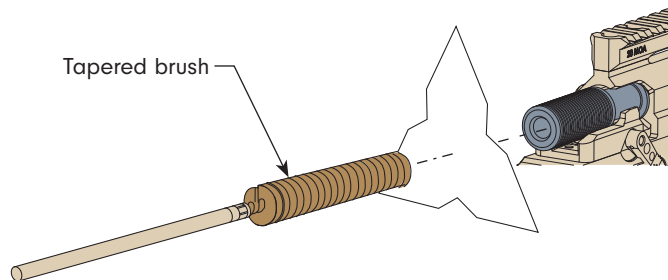
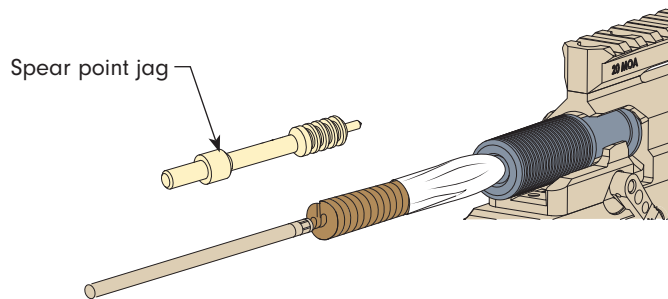

Fig 5-1
Fig 5-2
- Ensure the rod is clean before fitting a clean patch to the correct size spear point jag or tapered brush (see Fig 5-1 and Fig 5-2).